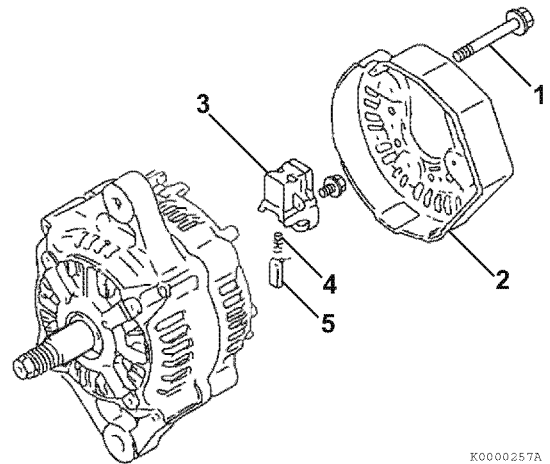

Figure 11-6
2. Remove the three bolts (1, Figure 11-6) retaining the rear cover (2, Figure 11-6) to the rear frame assembly.
3. Remove the brush holder (3, Figure 11-6). Remove the brush springs (4, Figure 11-6) and brushes (5, Figure 11-6).